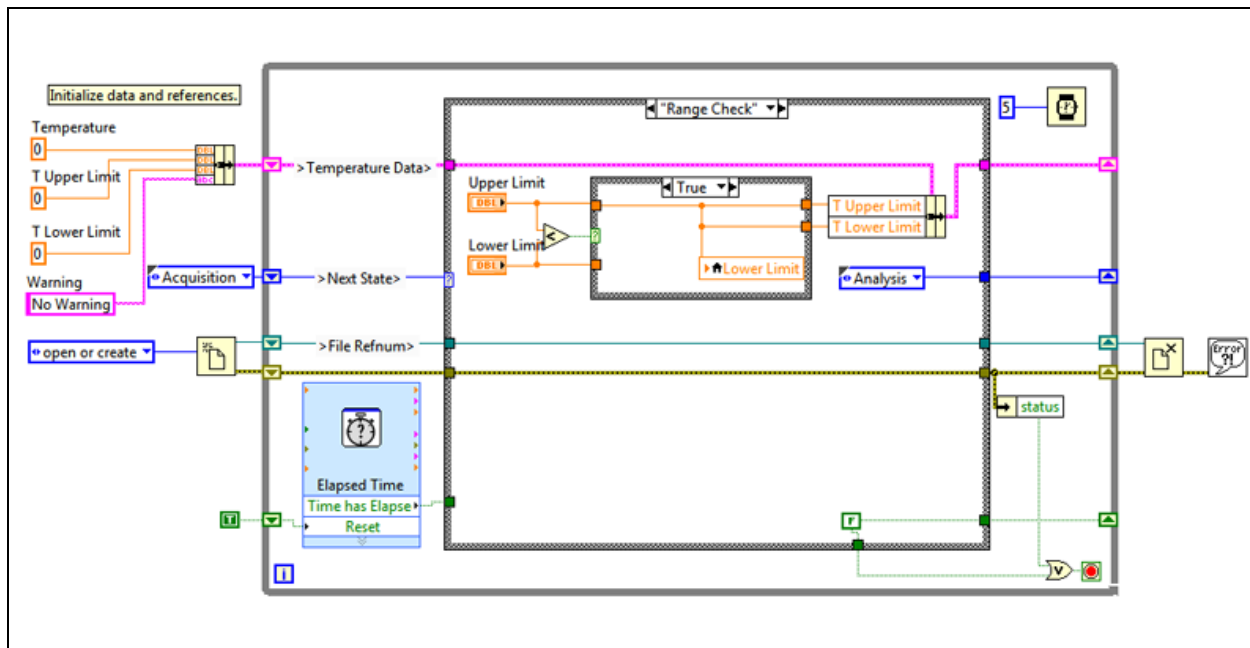

Figure 2. Completed Range Check State-True
5. If the Upper Limit is less than the Lower Limit, use a local variable to write the Upper Limit value to the Lower Limit control, as shown in Figure 2.
- ☐ Wire the **Upper Limit** and **Lower Limit** controls to the **Less?** function and the **Case structure** as shown in Figure 2.
- ☐ Wire the case as shown in Figure 2.